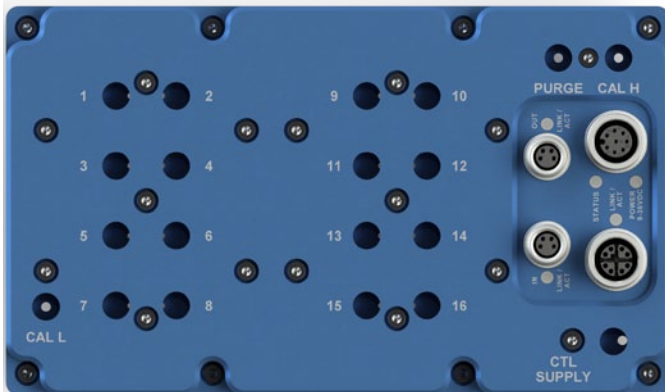

FIGURE 2.7 - DSA5000 ABSOLUTE, DUAL RANGE 16ADR TOP VIEW
The DSA5000 Dual Range Absolute 16ADR module can be used for absolute pressure measurement, offering eight (8) channels of one pressure range and eight (8) channels of a different pressure range. Like a standard absolute DSA5000, each group of eight (8) transducers share a common calibration valve. However, in absolute dual range modules the calibration valves are not tied together internally, and separate calibration ports are provided on the top of the module (no reference ports). They are labeled CAL H (high, channels 9-16) and CAL L (low, channels 1-8). Standard configuration will place the lower pressure range in the “low” side, channels 1-8. This can be altered at the customer's request. Figure 2.7 depicts the top panel of a DSA5000 Dual Range Absolute 16ADR pressure module.